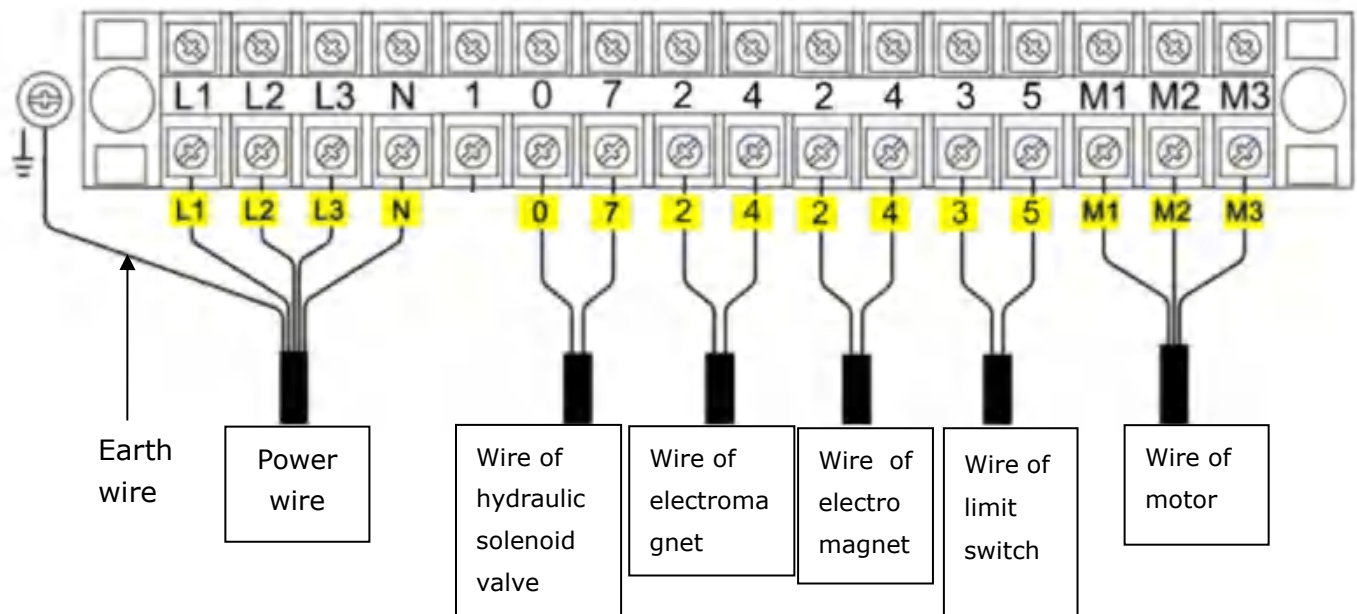

Fig. 33
2.1 Wire connection diagram in the control box (See Fig. 33)